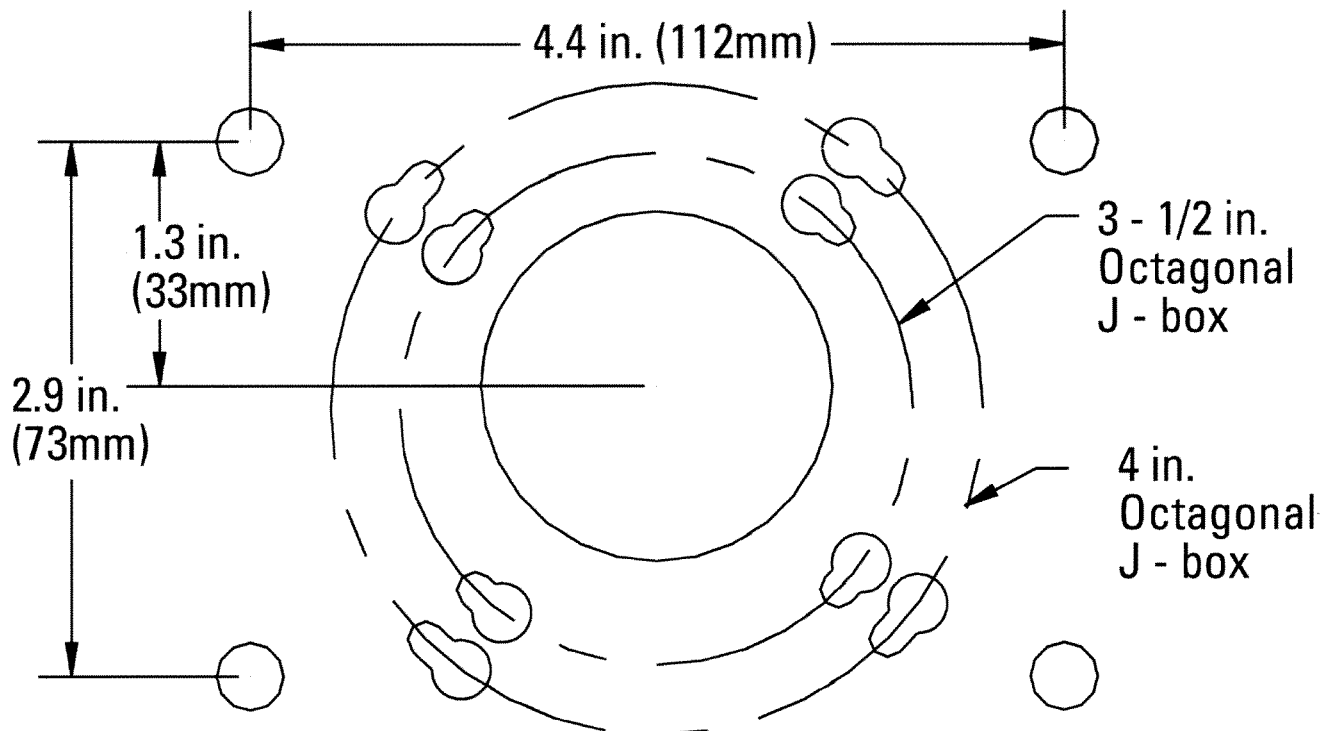

FIGURE 3
- Attach the Mounting Box to the wall or outlet using the holes in the cover as a drill template. Alternately, the mounting diagram in these instructions may be used as a drill template (see *Figure 3*).